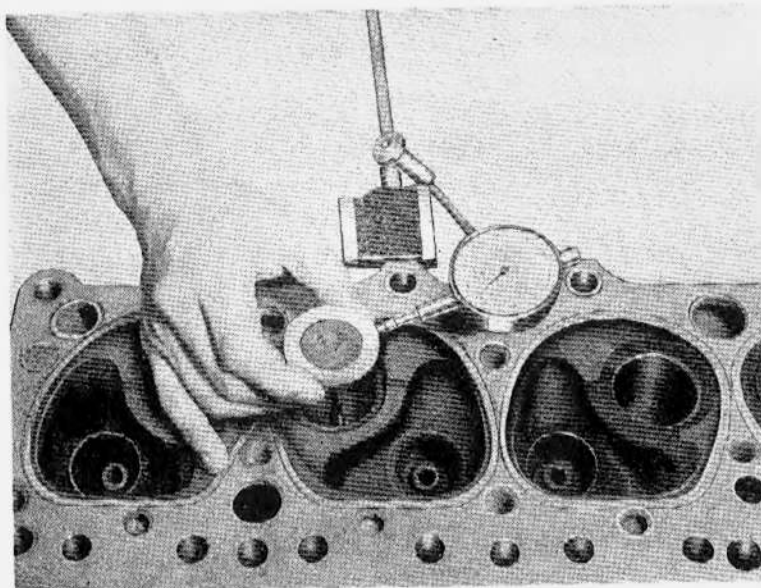

Figure 10 - Checking Valve to Guide Clearance
- (1) Inspect the cylinder head for cracks in the exhaust ports, combustion chambers.
- (2) Inspect the valves for burned heads, cracked faces or damaged stems.
(3) Check fit of valve stems in their respective guides (Fig. 10). Lift up the valve 10 mm above the cylinder head and then attach dial gage to valve head.